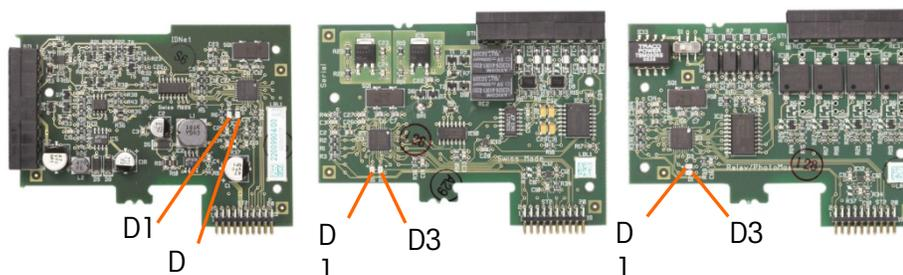

Figure 4-6: LED Locations: IDNet (left), Serial (center) and DIO (right) Cards
2. Access **Setup > Maintenance > Run > Backup to USB**. The screen shown in Figure 4-6 will appear.